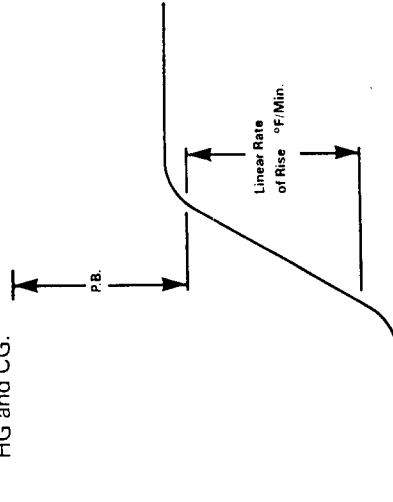

Figure 3-3. Temperature Rate of Rise in °F/Min.
- (1) Set rate gain switch to normal.
- (2) Remove heating module to disable heat.
- (3) Enter desired set point.
- (4) Set RT to zero and enter.
- (5) Set and enter cycle time to that which is appropriate for the process.
- (6) Set HG and CG to 20.
- (7) Replace heating module.
- (8) Start process heating and time the temperature rate of rise in °F/Min. for a minimum of 100°F and before proportioning cycle begins. Proportioning is indicated by cycling of the heat L.E.D. Do not include dead time on start. See Figure 3-3.
(9) To determine rate time, use the following formula: